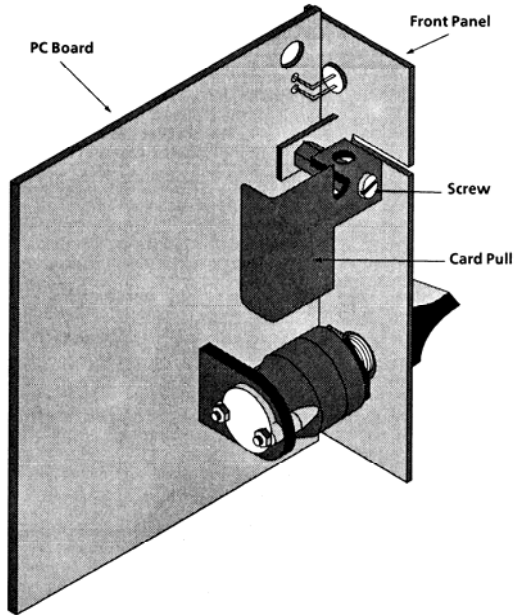

Figure 2-5. PC Card Module
2. Pull the card pullers on the PC module to slide the PC card out through the front of the Modem Rack(see Figure 2-5).